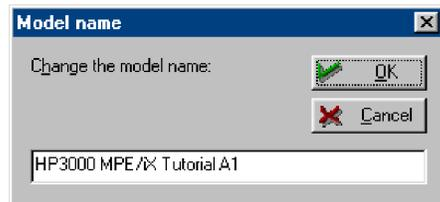

Figure 8.29 Model name dialog box
- 2 In the **Model name** dialog box (Figure 8.29), enter the desired model name.